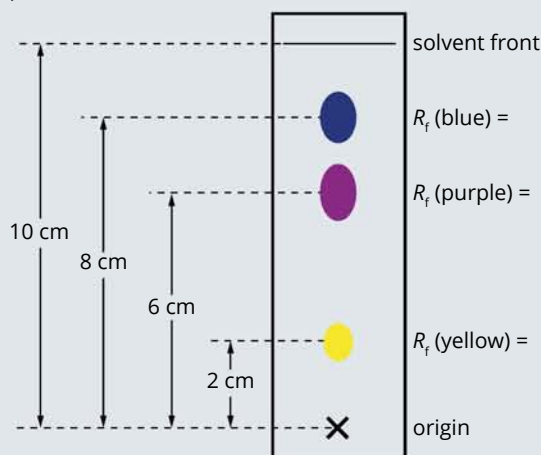

FIGURE 19.4.2 Chromatogram of a dye showing three components.
- 11 The chromatogram of a dye is shown in Figure 19.4.2. Calculate the R_f values for each of the blue, purple and yellow components. Give answers to one decimal place.